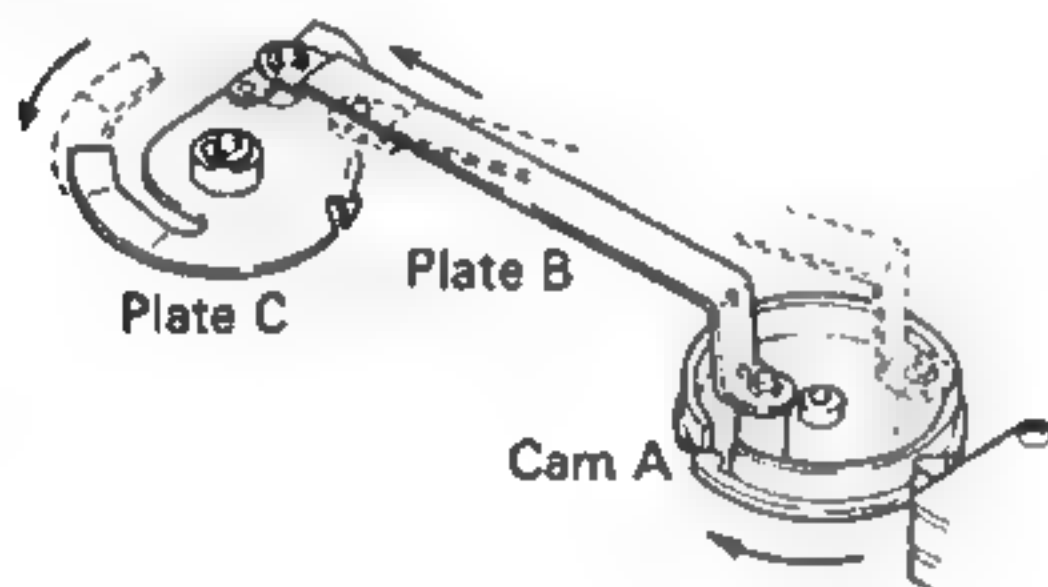

Fig. 2
3. Plate B, coupled to cam A, transfers cam A rotation to plate C (Fig. 2).